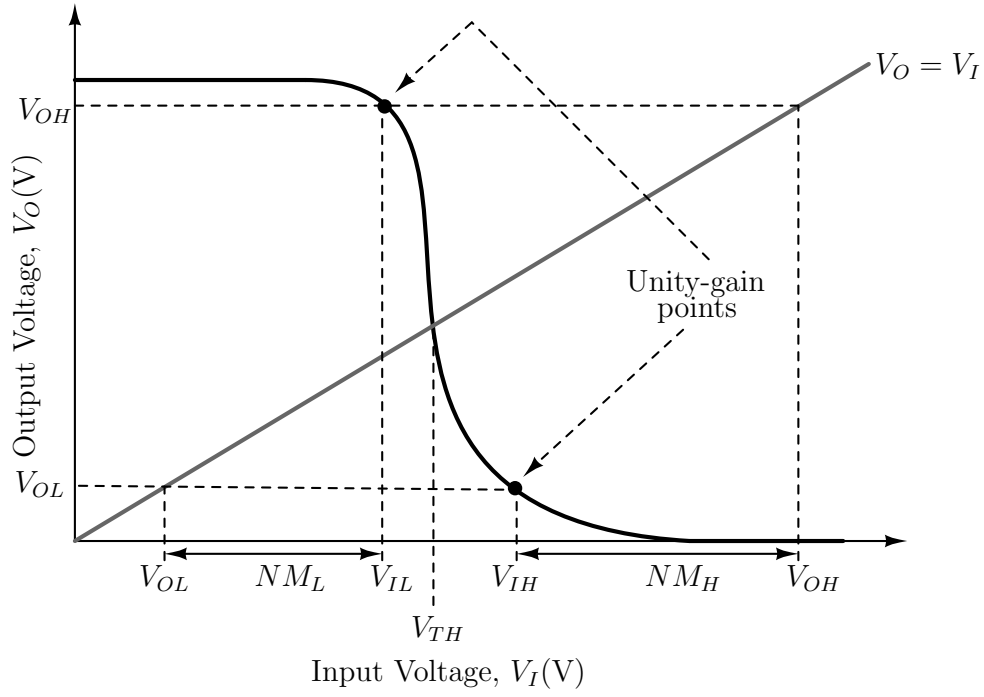

Figure 2.2. Noise Margins of a CMOS Inverter.
According to (3), W_N and W_P are the only two variables at designer's disposal for setting V_{TH} to $V_{DD}/2$. After setting the logic threshold of your inverter, you must specify the noise margins NM_H and NM_L which guarantee proper interpretation of input level only when the input voltage stays within these margins. These margins are determined via the use of VTC, as well. Calculation of NM_H and NM_L is illustrated in Figure 2.2.